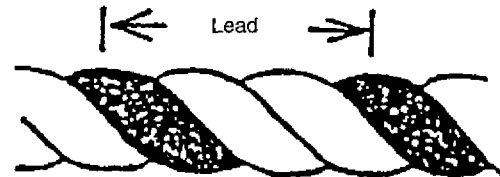

Fig. 3-66
- (1) Any point of breakage
- (2) Loss of form
- (3) Elongation in the rope lead (Fig. 3-66)
- (4) Fluff, abrasion
- (5) Wetness/dryness
- (6) Adhesion of foreign matter
- (7) Treatment of ends